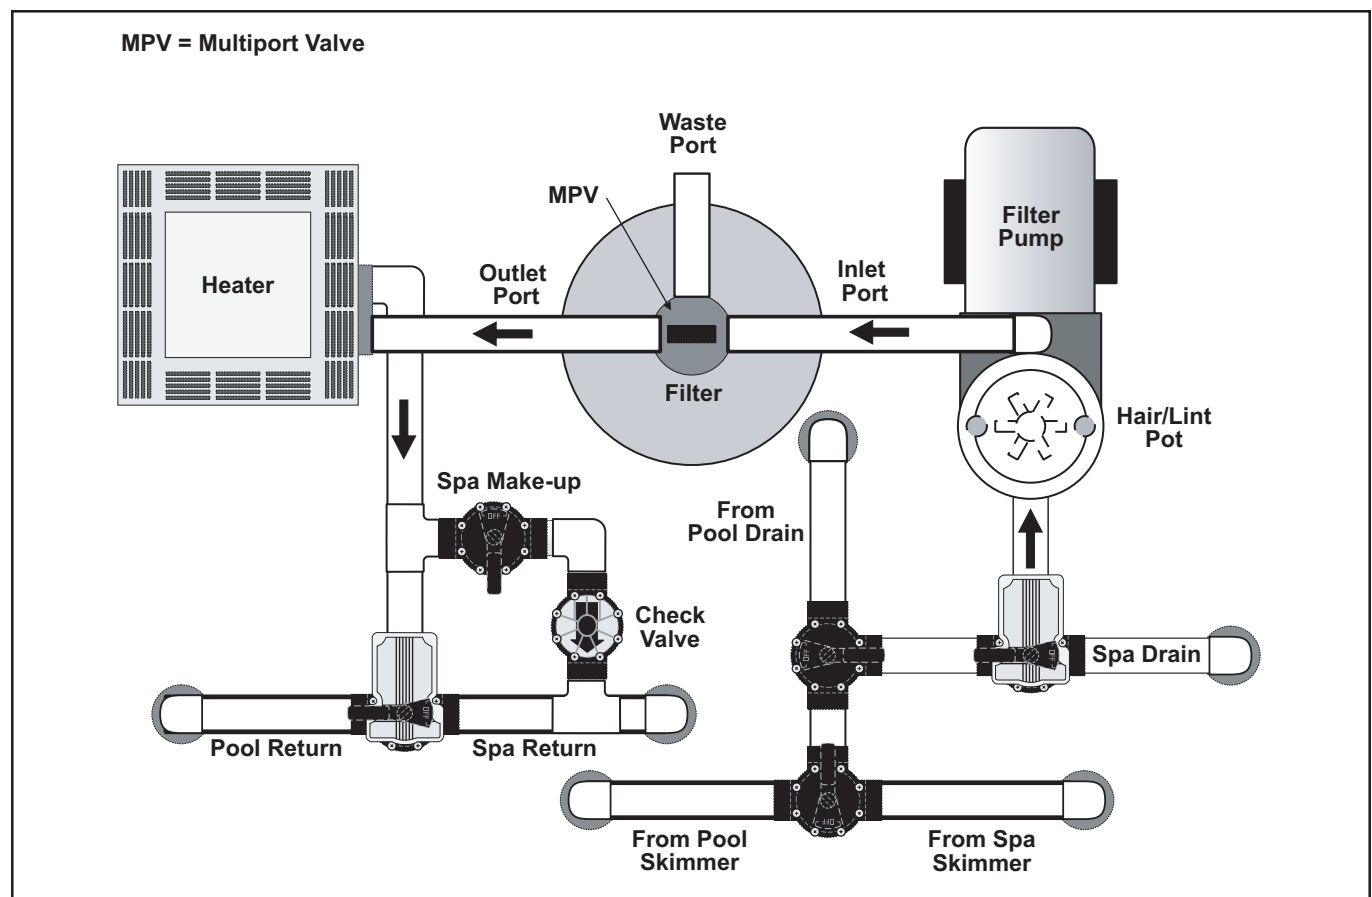

Figure 5. Basic Pool/Spa Combination Plumbing
3. Place on the concrete pad, lined up with the inlet/outlet pipes (see Fig. 5).